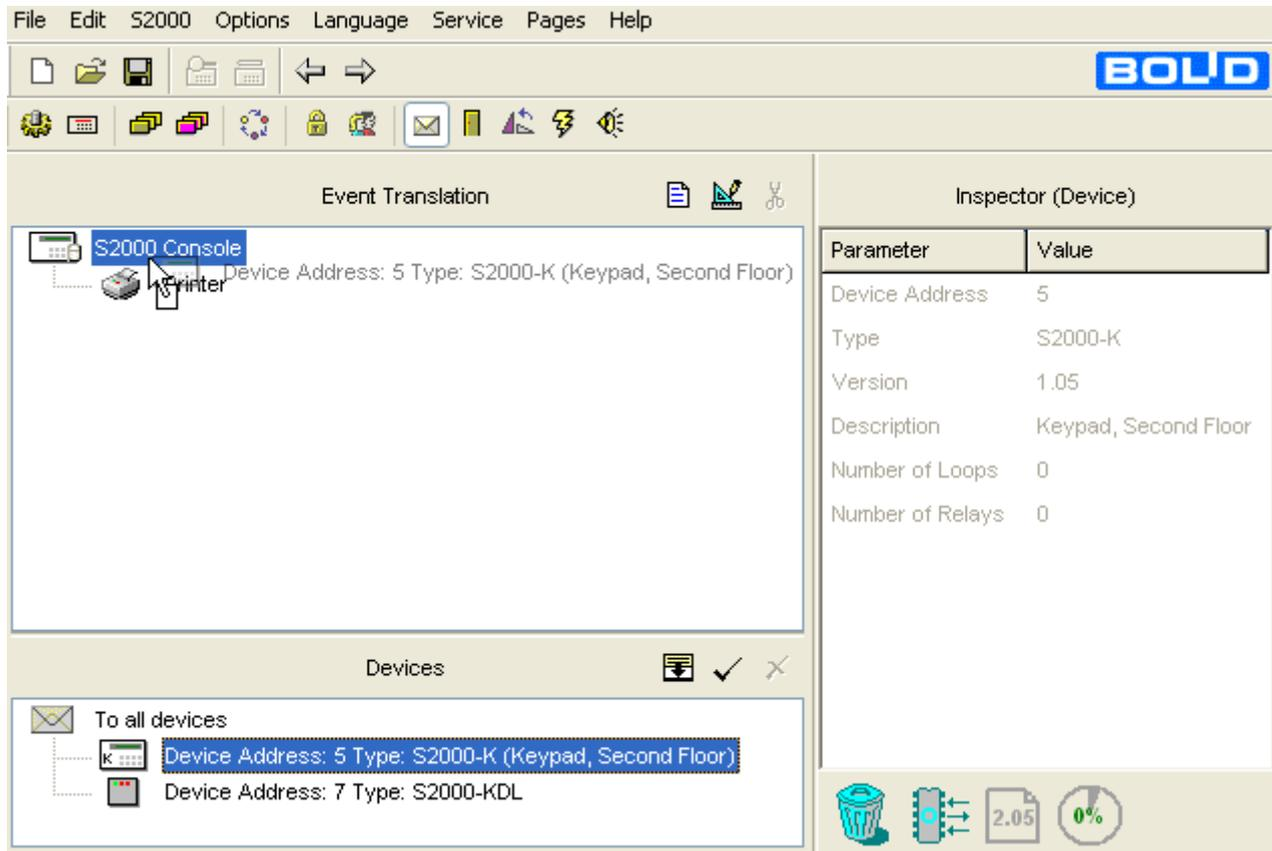

Figure 10
2. Specify the keypad as the device the events in the selected partitions will be translated to. For doing so, go to the *Event Translation* tab by pressing , or browsing arrow buttons on the Quick Access Toolbar, or selecting the Pages→Others→Event Translation menu command. Drag the keypad descriptor in the Devices window and drop them on the device tree in the Event Translation window (see Figure 10).